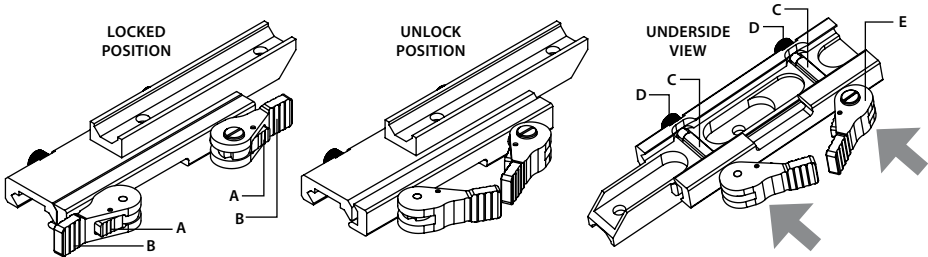

FIGURE 3-6. CO-LR MOUNT
3. Unlock the clamping device of the CO-LR mount by pushing down on the dog (A, see Figure 3-6) and unlocking the cam lever (B).
4. Install the CO-LR on the Picatinny/Weaver rail in front of the day scope so that the stop (C, see Figure 3-6) slides into one of the rail's transverse slots. The light suppressor should cover the day scope's objective lens.
5. Affix the CO-LR to the rail by locking the cam lever (B, see Figure 3-6).
2. With the clamping device unlocked (as shown in Figure 3-6), push the cam (E) towards the arrow, which will cause the nut (D) to slide out of its hollow.
3. To tighten/ loosen the clamping device, push down on the cam (E) and turn the nut (D) CW/ CCW respectively, in one-two increments (see note below). Much like when the cam (E) is released, backward-moving springs will cause the nut (D) to slide back into its hollow.